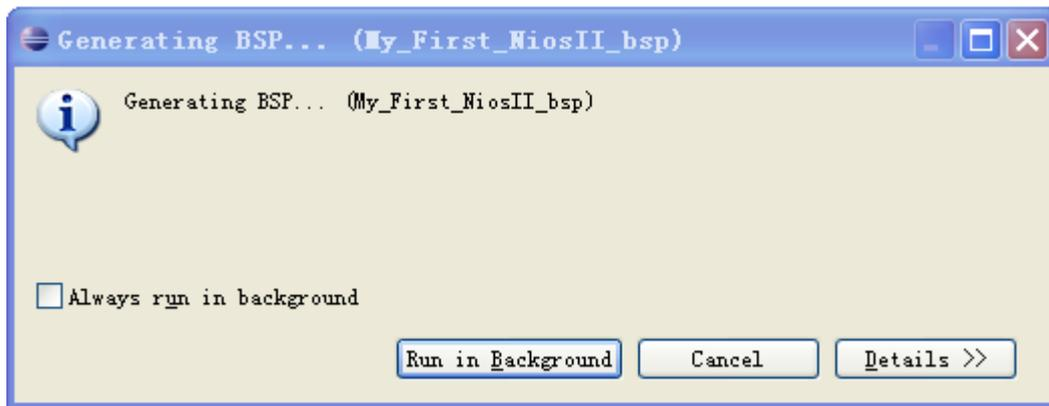

Figure 3-22 Generate BSP
1. In the NIOS II SBT for Eclipse, right-click **My_First_Niosii_bsp** and choose **Nios II > Generate BSP**. See Figure 3-22.